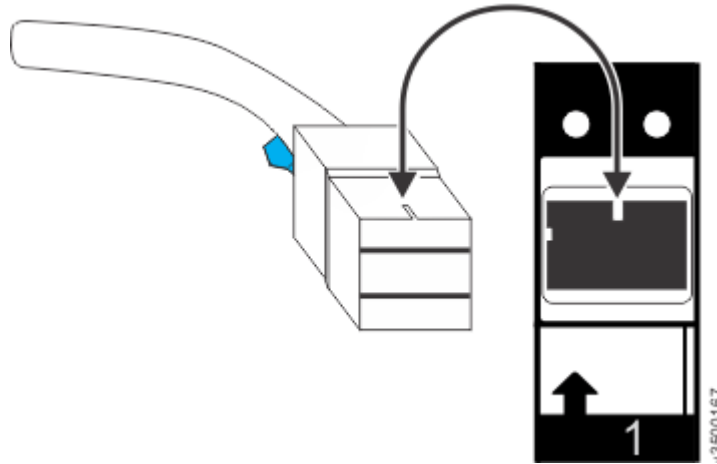

Figure 111. Proper orientation for SAS cable connector
- Figure 111 on page 164 shows the correct orientation. The blue tab is always below the port for expansion enclosure attachment SAS cables.